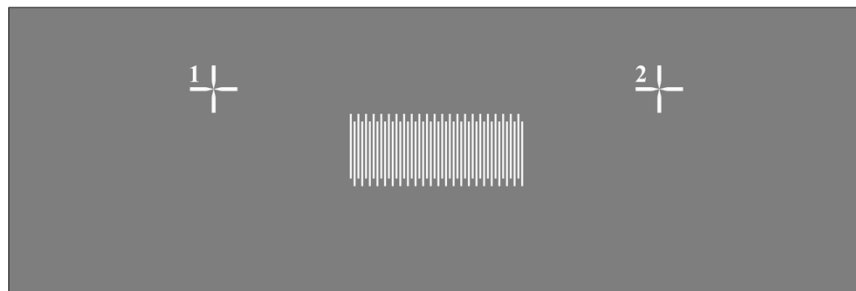

Figure 58 - Free alignment mode
- On the **EXPOSURE** panel, click on the **ALIGNMENT MODE** and set the **toggle switch** below to **FREE** (Figure 58). The selected design will be projected on the sample under green illumination.